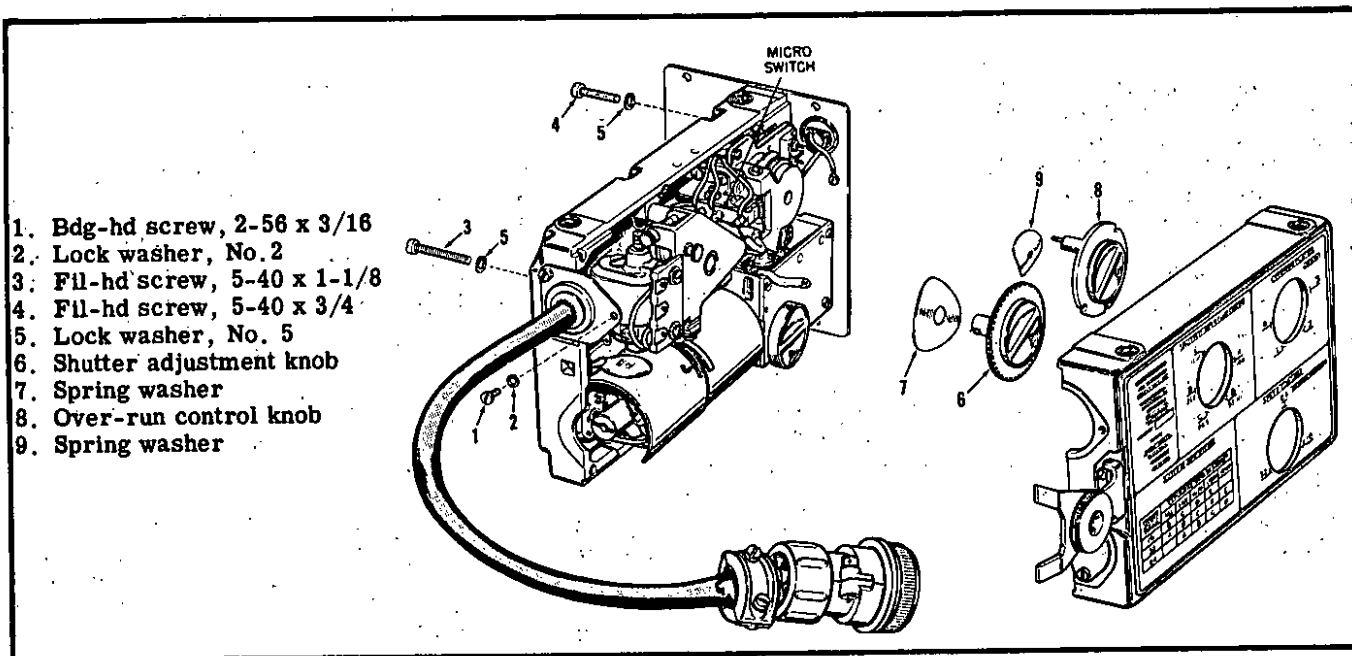

Figure 4-2. Separating the Camera Bodies
e. Loosen the six fillister head screws (3 and 4, figure 4-2) which assemble the upper camera body to the lower camera body. Tighten the four front end adapter screws securely; then tighten the body attaching screws.
4-11. PARTIAL DISASSEMBLY. (See figure 4-2).
4-13. REASSEMBLY. (See figure 4-2).
b. Carefully assemble the upper camera body to the lower camera body and install (but do not tighten) the six fillister head screws (3 and 4, figure 4-2) and lock washers (5). The two longer screws (3) must be installed in the bottom holes toward the front of the camera body.
c. Secure the "V" of the cable attaching plate to the upper camera body with the binding head screw (1) and lock washer (2).